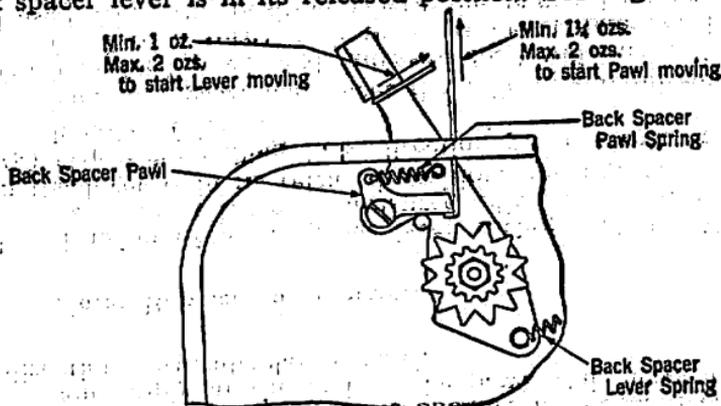

Fig. 7
3.13 Tension of back spacer pawl spring shall be Min. 1-1/4 ozs., Max. 2 ozs., measured at end of pawl when back spacer lever is in its released position. See Fig. 7.